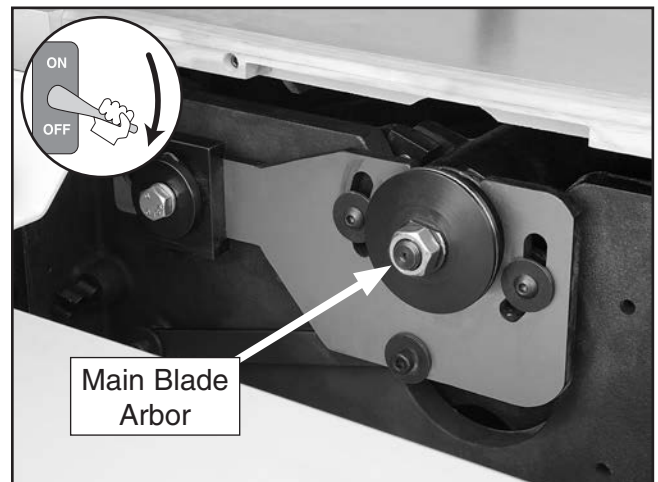

Figure 42. Main blade arbor components.
28. Slide the table all the way forward to access the blade arbor and pull open the blade guard (see **Figure 42**).